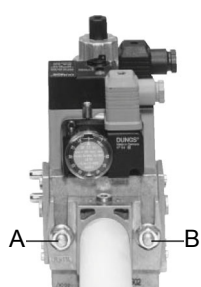
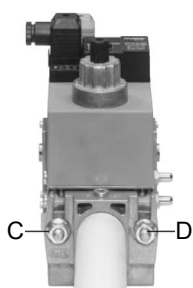
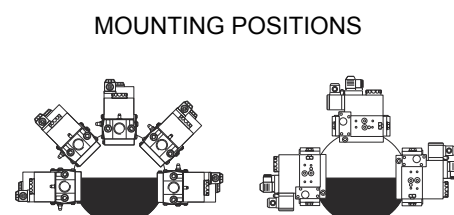

Fig. 5
Fig. 6
Fig. 8
3. tighten screws A, B, C and D (Fig. 5 - Fig. 6), according to the mounting positions (Fig. 8);